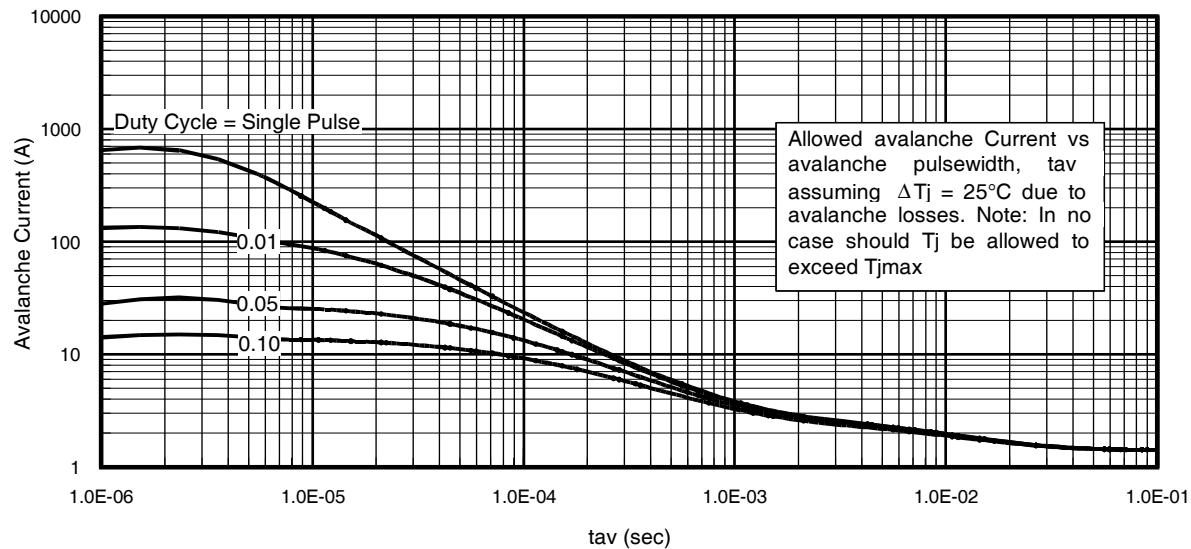

**Fig 11.** Maximum Effective Transient Thermal Impedance, Junction-to-Case
- ① Repetitive rating; pulse width limited by max. junction temperature. (See fig. 11).
- ② Limited by  $T_{J\text{max}}$ , starting  $T_J = 25^\circ\text{C}$ ,  $L = 0.12\text{mH}$  ⑤  $R_G = 25\Omega$ ,  $I_{AS} = 95\text{A}$ ,  $V_{\text{GS}} = 10\text{V}$ . Part not recommended for use above this value.
- ③ Pulse width  $\leq 1.0\text{ms}$ ; duty cycle  $\leq 2\%$ .
- ④  $C_{\text{oss eff.}}$  is a fixed capacitance that gives the same charging time as  $C_{\text{oss}}$  while  $V_{\text{DS}}$  is rising from 0 to 80%  $V_{\text{DSS}}$ .
$Z_{thJC}(D, t_{av})$  = Transient thermal resistance, see figure 11)